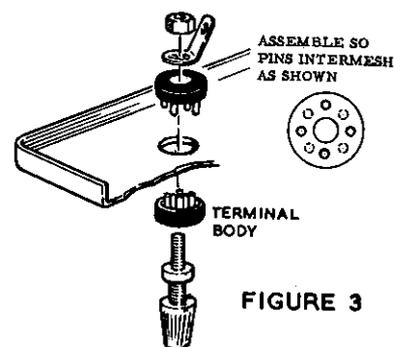

FIGURE 3
Refer to Pictorial 1 and Figure 3 for the following two steps:
- () Mount RED terminals at RR and XX as shown in Figure 3. Under each nut use a 4BA shakeproof solder tag and before tightening the nut, position the solder tag as shown in Pictorial 1 and ensure that the cross-drilled holes in the terminal bodies are horizontal.
- () Mount BLACK terminals at RRG, SS, TT and VV as shown in Figure 3. Under each nut use a 4BA shakeproof solder tag and, before tightening the nut, position the solder tag as shown in Pictorial 1 and ensure that the cross-drilled holes in the terminal bodies are horizontal.